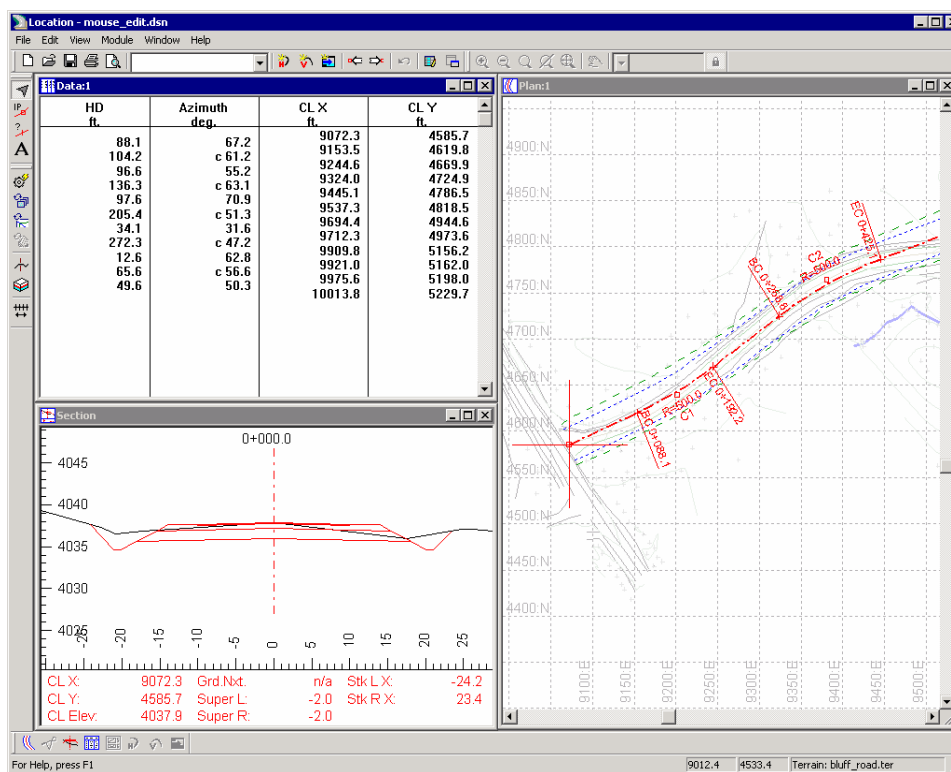

Figure 2.19: A New Screen Layout
12. Size and move the windows until the screen looks similar to the one shown in Figure 2.19.